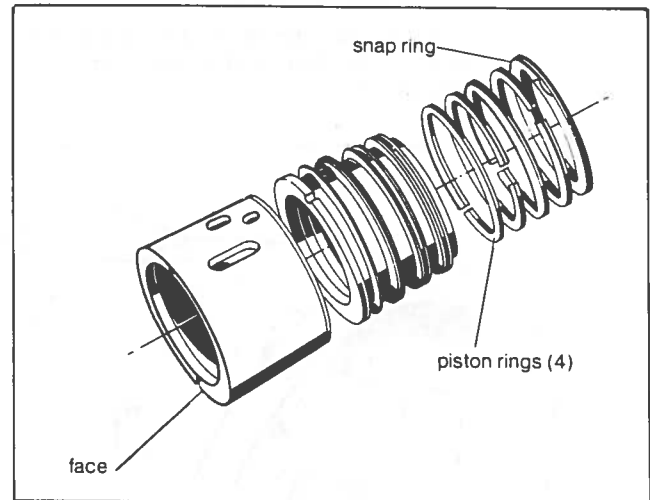

Fig. 29. Rear Commutator Bushing
9. See Fig. 29. Carefully remove snap ring from rear commutator bushing and carefully remove inner sleeve (with piston rings).